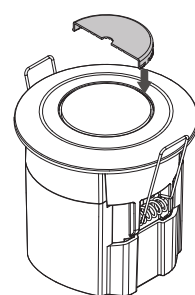

FIG.13
4.3.3 Fixing lens shield: There is a circular hook on the back of the decorative frame which fits the circular groove of the lens shield. The lens shield can be fitted by joining its groove with the corresponding hook on the decorative frame (see FIG.13)